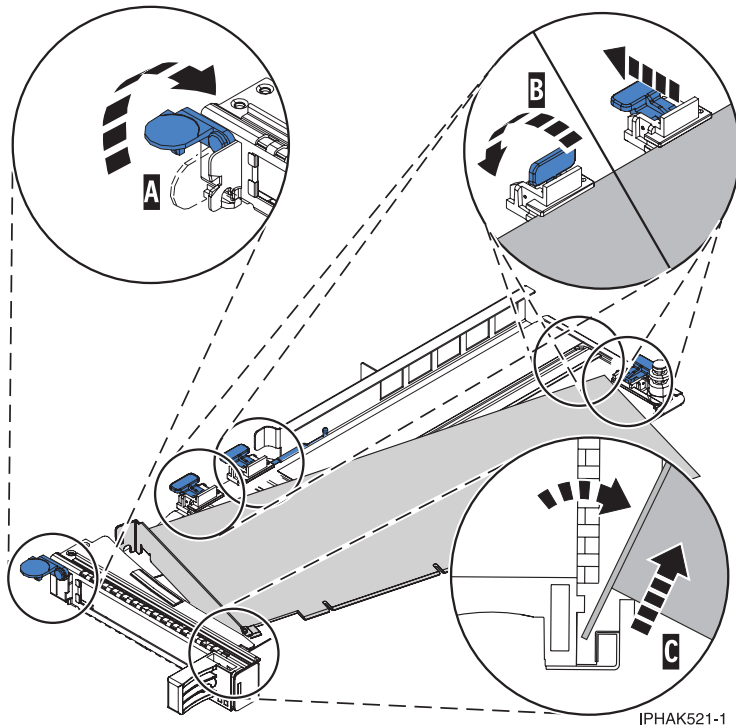

Figure 82. Adapter removed from the PCI adapter cassette
- a. Unlock the adapter retainers by rotating the retainer clip (A) into the horizontal position. See Figure 82 on page 90.